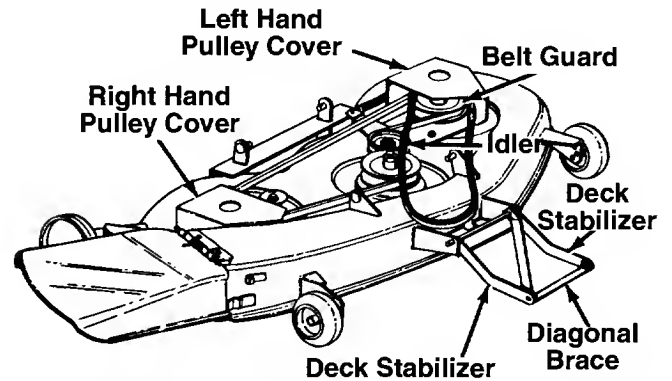

FIGURE 24.
2. Remove the left hand pulley cover by unhooking the spring and removing five self-tapping screws. See figure 24.